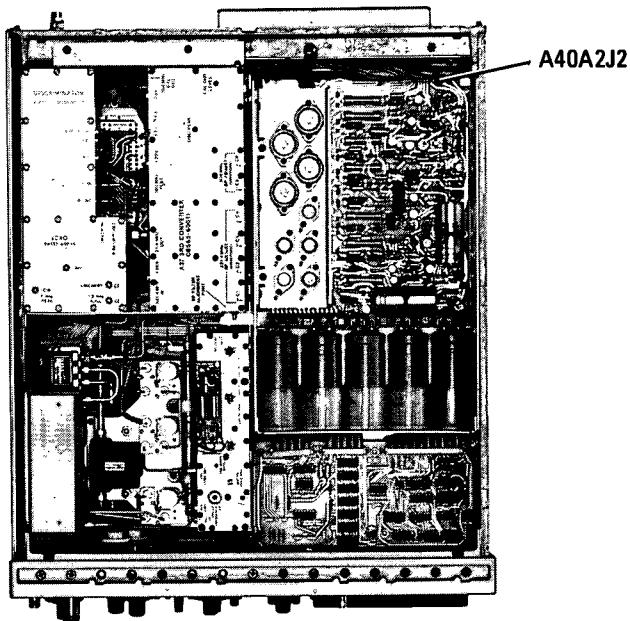

Figure 5-2. A40A2 Adjustment Location
- c. Adjust + 15V REF A40A2R17 for + 15.00 Vdc \pm 0.005 Vdc at A40A2J2-11 (Figure 5-2).